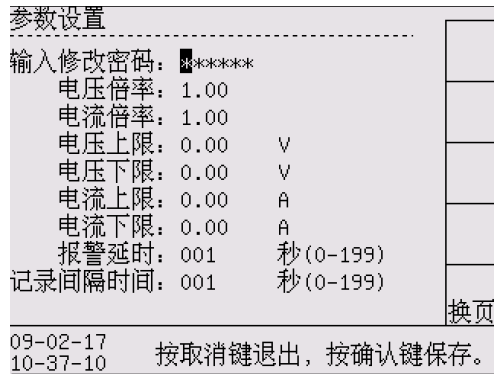

Figure 13-2 Parameter setup –1
3. Parameter setup (Figure 13-2)